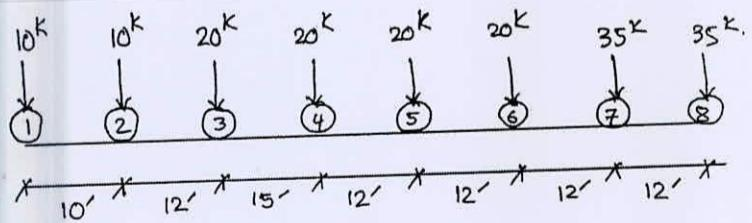

Fig. 13
10. Compute maximum shear at one-third point from left support of a simply supported beam of 72 ft due to the wheel loads shown in Fig. 13.